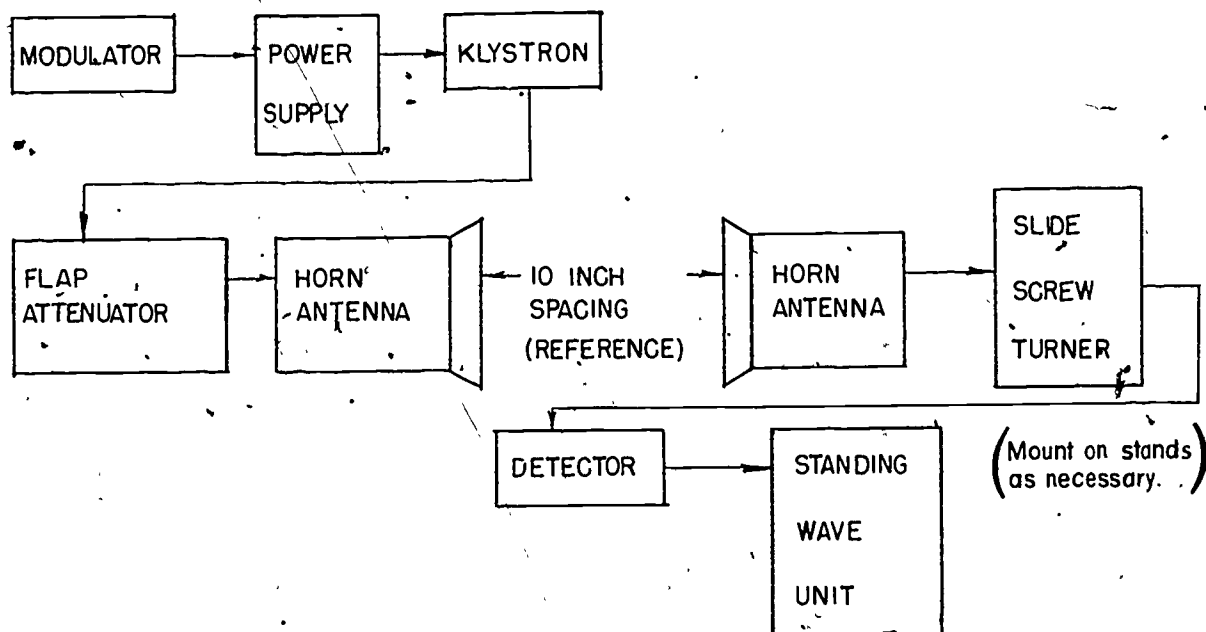

Fig. 2--Measurement of Propagation
19. Connect the training equipment as shown in Fig. 2.